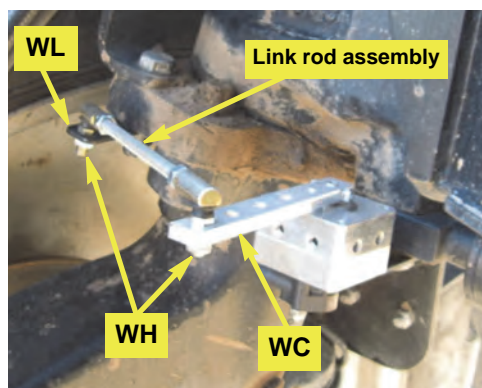

Figure 2d: WAS link rod assembly installed
- d. Using hardware **WH**, install the link rod assembly from step 1 between the last hole in WAS arm **WC** and bracket **WL**. Set the swivel studs downward at both ends (Figure 2d). Leave swivel nuts **WH** loose.